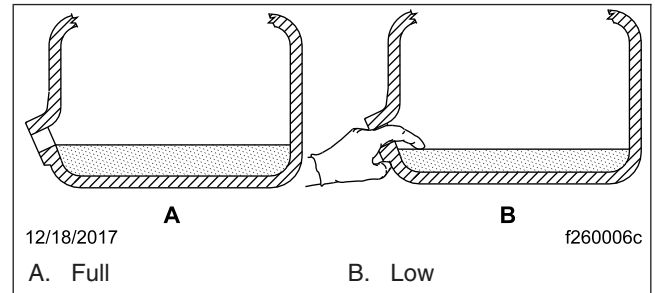

Fig. 1, Checking Transmission Fluid Level
3. Using your gloved finger or a bent pipe cleaner, check if the fluid is level with the fill opening. See Fig. 1.